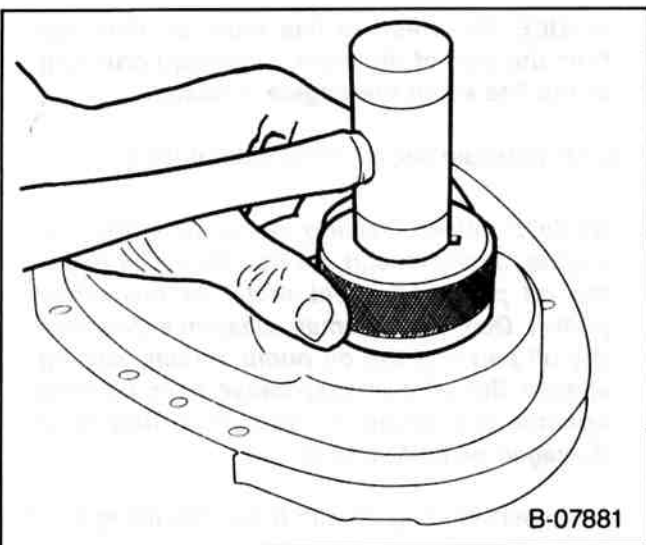

Figure 14—Installing The Front Crankshaft Seal (Typical)
Install or Connect (Figures 14, 15, and 16)
1. Front crankshaft seal. Use J-22102 (figure 14). The open end of the seal faces inside the engine. Coat the seal lips with engine oil.